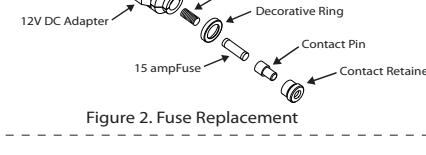

Figure 2. Fuse Replacement
The CPS200SI contains a fuse inside in the lighter adapter (see Figure 2) to protect the unit against overloading. If the inverter draws more than 150 watts, the internal fuse may open to protect the inverter, vehicle battery, and the connected equipment. To replace the fuse, please follow the instructions below:
- Ensure all pieces shown in Figure 2 are installed in the correct sequence.